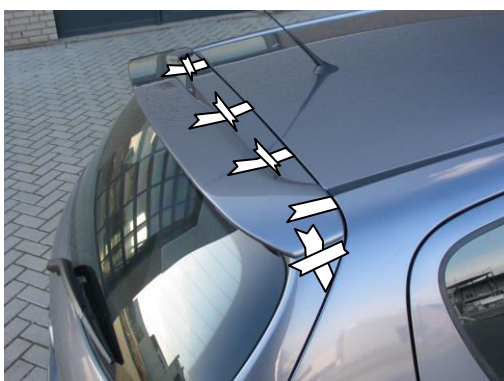

fig. 2
6. Slightly open the tailgate and temporarily fix the spoiler with tape. Pull the tape from the spoiler around the edges of the tailgate (**fig. 2**), so that eventual gaps will be minimised. Any squeezed-out rests of glue must be removed immediately with alcohol!